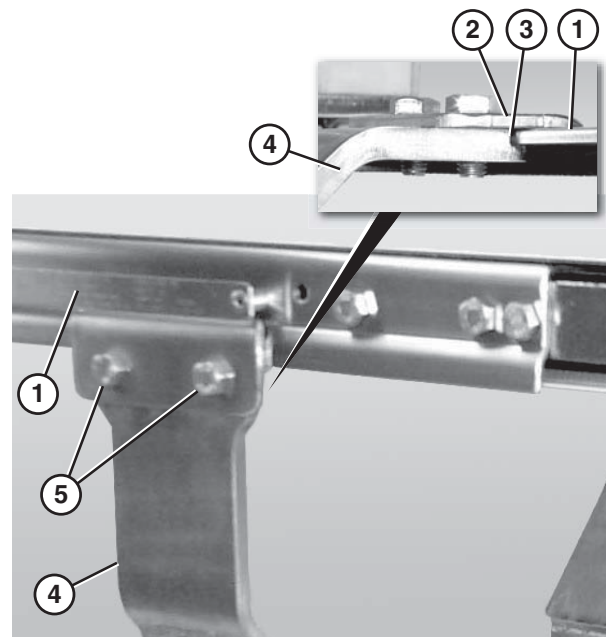

Figure 4
| Make sure the conveyor (Figure 4, item 1) is seated between the clamp plate (Figure 4, item 2) and the lip (Figure 4, item 3) at the top of the stand (Figure 4, item 4) before tightening the clamp plate screws (Figure 4, item 5). |
3. Attach the stand (Figure 4, item 4) to the conveyor (Figure 4, item 1) and tighten the four screws (Figure 4, item 5) to 80 in•lb (9 N•m).